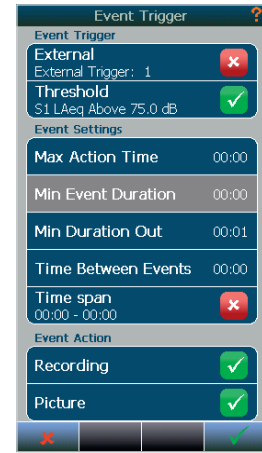

Figure 13.2
You must download and install this app from the Google Play store. A trigger threshold can be set up in the Nor150 trigger menu or via the NorRemote app from the device itself. Enable the use of the device camera in **SETUP > Measurement > Camera > Camera Selection**. Remember to enable Picture in the **Event Trigger menu** (Figure 13.2). You must also tick on the “device camera” in the NorRemote app in order to enable the use of the camera on the device running the NorRemote app. The device must be set up as an hot spot in the app configuration menu.
4. In the *Event Trigger menu*, set a proper trigger level for the camera and turn the camera on. See Figure 13.2.